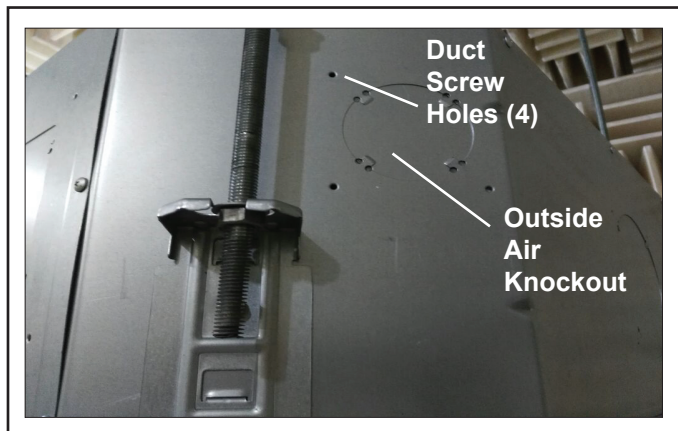

Figure 14. Typical Outside Air Knockout
1. Knock out the outside air supply opening. See Figure 14.
4. Connect the outside air duct to cassette body using the four screw holes shown in Figure 14.